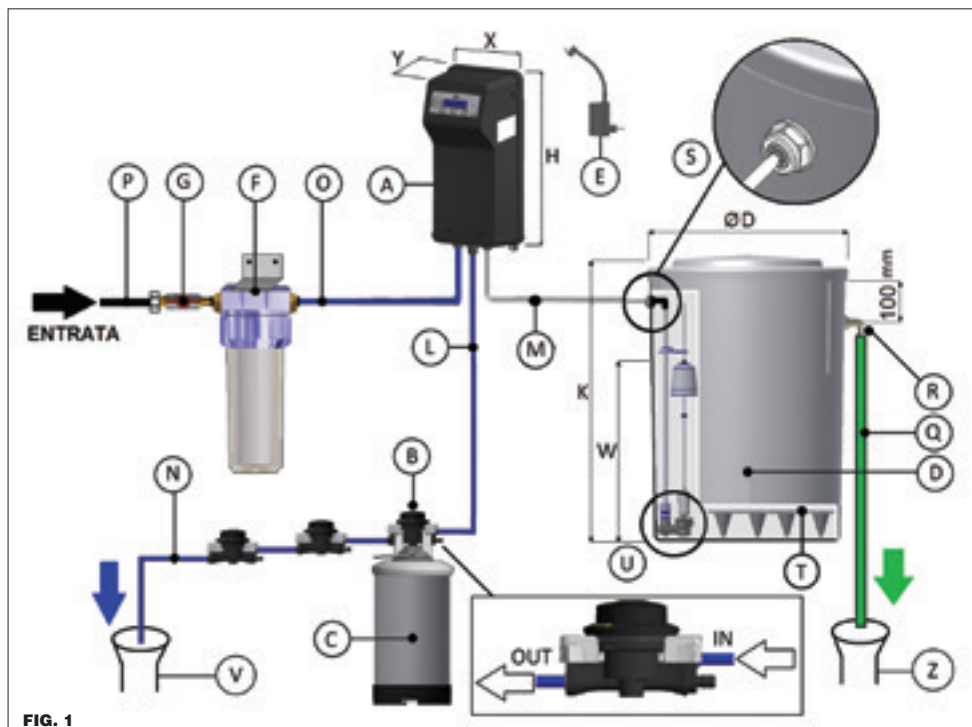

FIG. 1
**LEGENDA (fig. 1):**
- L TUBO CENTRALINA-BOMBOLA (10)
- M TUBO CENTRALINA SALAMOIA (6)
- O TUBO FILTRO-CENTRALINA (10)
**LEGEND (fig. 1):**
- L GEARCASE-CYLINDER PIPE (10)
- M GEARCASE-SALT TANK PIPE (6)